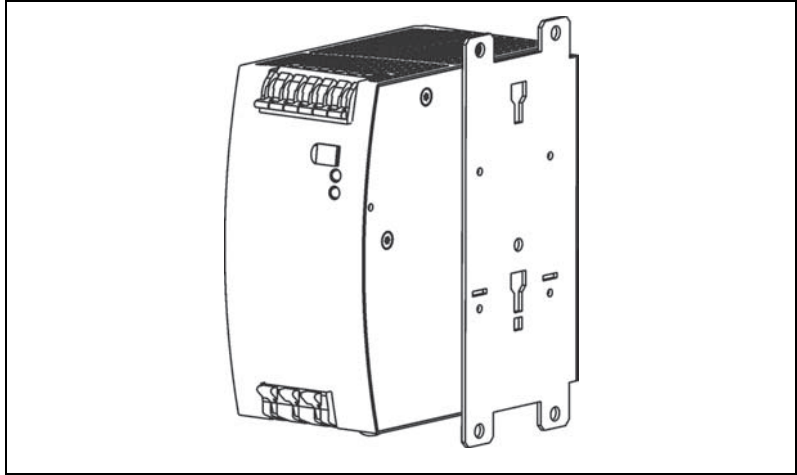

Figure 7. Installing the Mounting Brackets
1. Install the mounting plate with the steps described in the Sideways Panel Mounting section. When those steps are completed, the mounting plate should be attached to the power supply as shown in Figure 7.